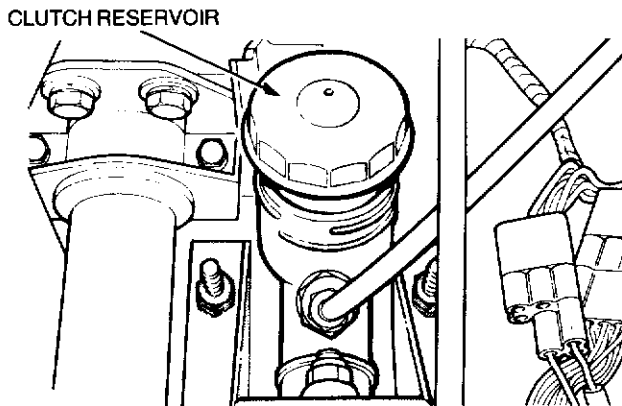

Figure 3-15 Clutch reservoir
**340.** Remove the reservoir cap and check that the fluid level in the clutch reservoir is up to the bottom of the filler neck. If necessary, top-up with clean brake fluid OX (Aust) 8. See Fig. 3-15 for reservoir location.